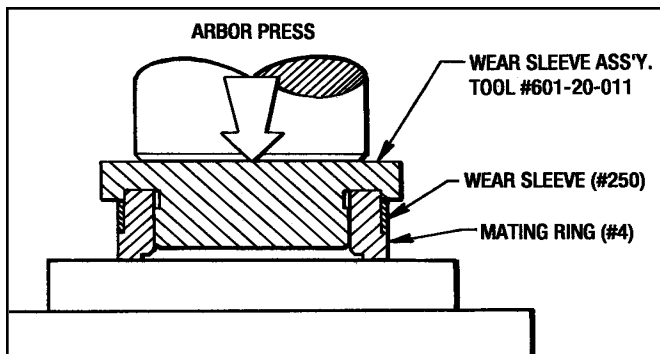

Figure 9.9 - Installing Wear Sleeve (#250) on Mating Ring (#4)
- Apply Sealant (Loctite #271) on the I.D. of the Wear Sleeve (#250) and press the Wear Sleeve (#250) onto the Mating Ring (#4). (See Figure 9.9 on next page).
- Place tape over the keyway and slide the Bearing Retainer (#7) over the Input Shaft, being careful not to damage the lip of the Oil Seal (#31). Attach the Bearing Retainer with (6) Screws (#63).